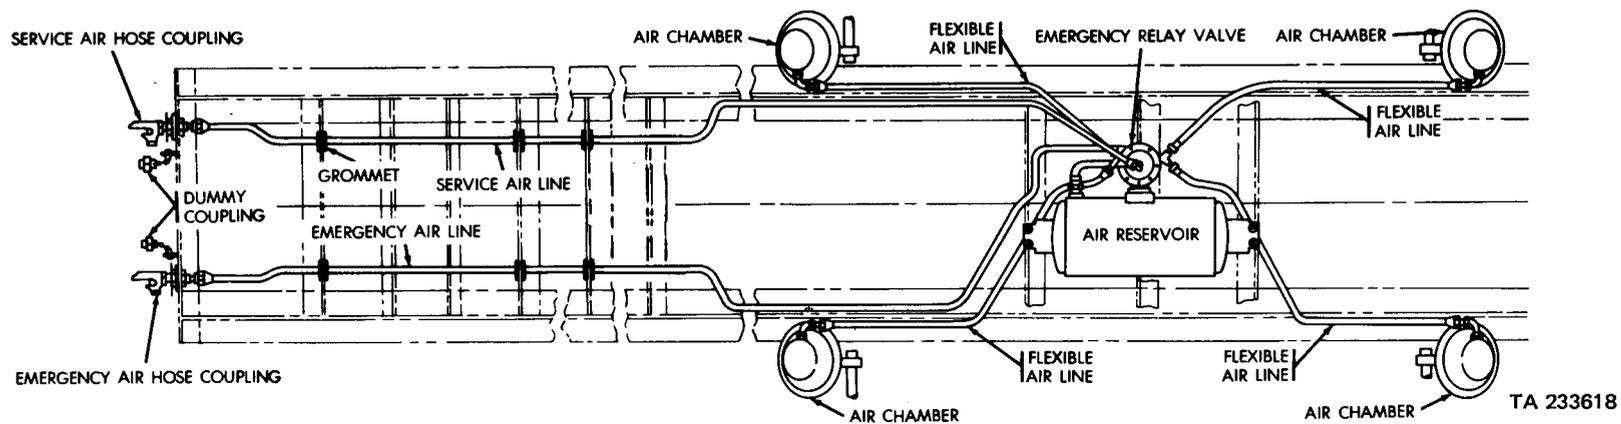
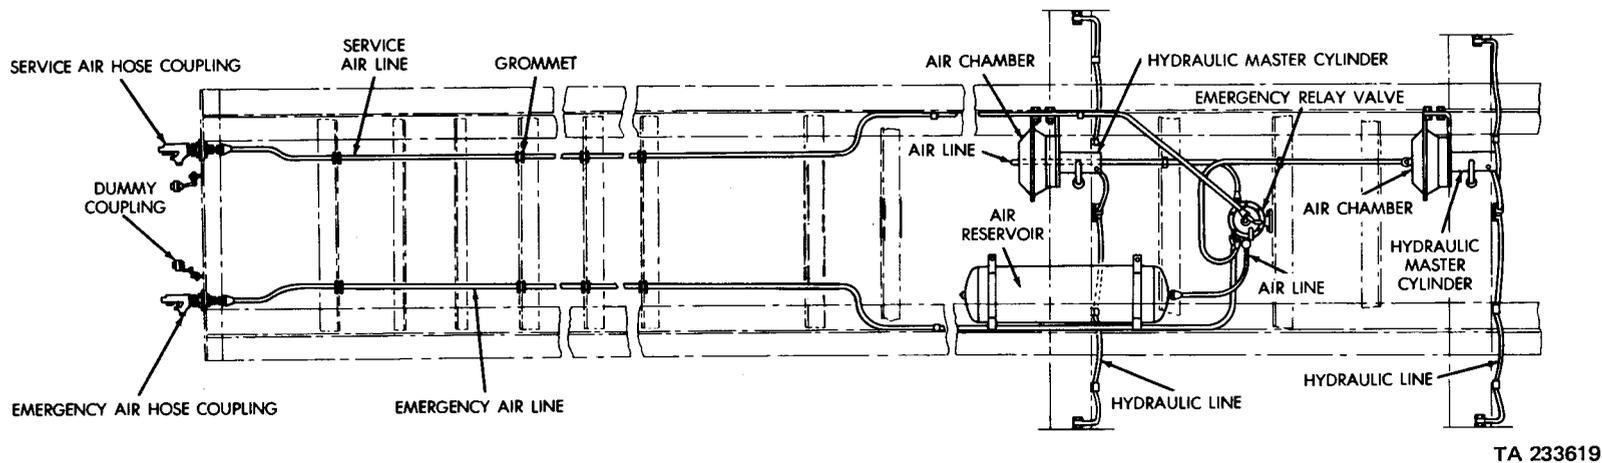
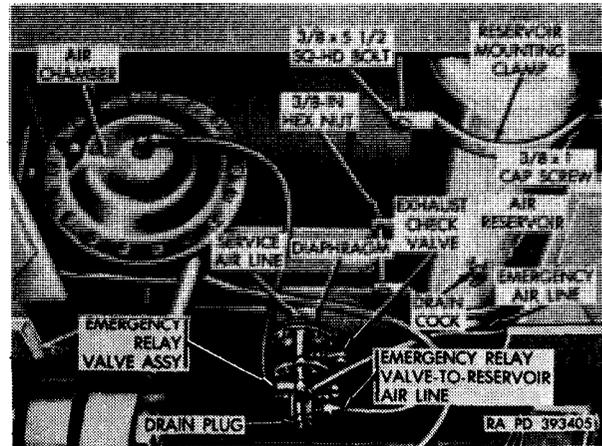

Figure 4-34. Schematic diagram of brake system (M127)
Figure 4-35. Schematic diagram of brake system (All models except M127)
Figure 4-40. Air chamber, emergency relay valve, air reservoir and lines (All models except M127)
- (1) M127. The brakes are the air-actuated type (fig. 4-34). Air pressure is used to operate the mechanical internal brakes at the semitrailer wheels. The brakes are applied in proportion to the foot pressure applied to the brake pedal of the towing vehicle.
- (2) All Models except M127. The brakes are the air-over-hydraulic type (fig. 4-35). Two hydraulic master cylinders, with air chambers operate the hydraulically actuated internal brakes.
g. Hydraulic Lines (All Models Except M127). The hydraulic lines (fig. 4-35) consist of two flexible lines and two rigid lines. The two flexible lines connect between each hydraulic master cylinder and a rigid hydraulic line mounted on each axle. A rigid line, with a tee in the center for connection to the flexible line is mounted on each of the axles. These rigid lines transmit hydraulic fluid to each internal brake assembly.
i. Service Air Line. The service air line (figs. 4-34 and 4-35) on the semitrailer extends from the air hose coupling (tagged SERVICE), on the right side of the front crossmember, along the right chassis longitudinal frame rail to an elbow in the top of the emergency relay valve (figs. 4-40 and 4-41). Its purpose is to transmit changes in air pressure originated in the towing vehicle, which causes the emergency relay valve to function.
j. Emergency Air Line. The emergency air line (figs. 4-34 and 4-35) on the semitrailer extends from its air hose coupling (tagged EMERGENCY), on the left side of the front crossmember, along the left longitudinal frame rail to a threaded opening near the bottom of the emergency relay valve (figs. 4-40 and 4-41). This air line transmits compressed air to fill the semitrailer reservoir and to maintain the proper air pressure, under control of the emergency relay valve, to apply the brakes on the semitrailer.
m. Emergency Relay Valve. The emergency relay valve on M 127 semitrailers is mounted on the semitrailer air reservoir. The emergency relay valve (fig.4-40) on all models except M127 semitrailers, is mounted on a crossmember of the chassis frame at a point above and between the axles. The valve performs the same basic function on all of the above semitrailers. The valve directly controls the service brakes on the semitrailer. It speeds brake action by releasing air from the air reservoir, on the semitrailer directly to the air chambers. This eliminates the loss of time that would result if sufficient air to operate the brakes had to travel from an air reservoir on the towing vehicle to the air chambers. Also this valve controls the flow of air to and from the semitrailer air reservoir, and automatically applies the brakes if the semitrailer breaks away from the towing vehicle or if there is a serious leak in the emergency air line.
o. Air Reservoir. The air reservoir (figs. 4-34 and 4-41) on M127 semitrailers, is mounted on brackets attached to the chassis frame between the suspension mounting brackets. The air reservoir (figs. 4-35 and 4-41) on all models except M127 semitrailers, is secured by mounting clamps mounted on the left longitudinal frame rail just forward of the front-rear axle. The air reservoir is connected by a tube to the emergency relay valve and provides a supply of air on the semitrailer through the valve for applying the brakes. It is equipped with a drain cock for draining accumulations of moisture and for releasing air pressure in the semitrailer brake system, in the event of locked brakes.
- (3) Leakage tests.
- (a) With air brake system connected, apply soapy water to flanges which hold diaphragm (figs. 4-40 and 4-41) and to service air line coupling. No leakage is permitted. Tighten nuts on flanges and tighten coupling as required.
- (b) Coat exhaust check valve (figs. 4-40 and 4-41) with soapsuds. Apply brakes.
- (1) Drainage of moisture. Open drain cock (figs. 4-40 and 4-41) on air reservoir. Close drain cock after drainage.
- (2) Test and check for serviceability. With air brake system connected to towing vehicle, coat drain neck, pipe plugs, connections between emergency relay valve and reservoir, connector attaching air line to air reservoir, and outside of air reservoir (figs. 4-40 and 4-41) with soapsuds. No leakage is permissible. Tighten any leaking connections. Inspect for damage or corrosion. Replace reservoir if it leaks or if any damage or corrosion is found that would weaken reservoir.